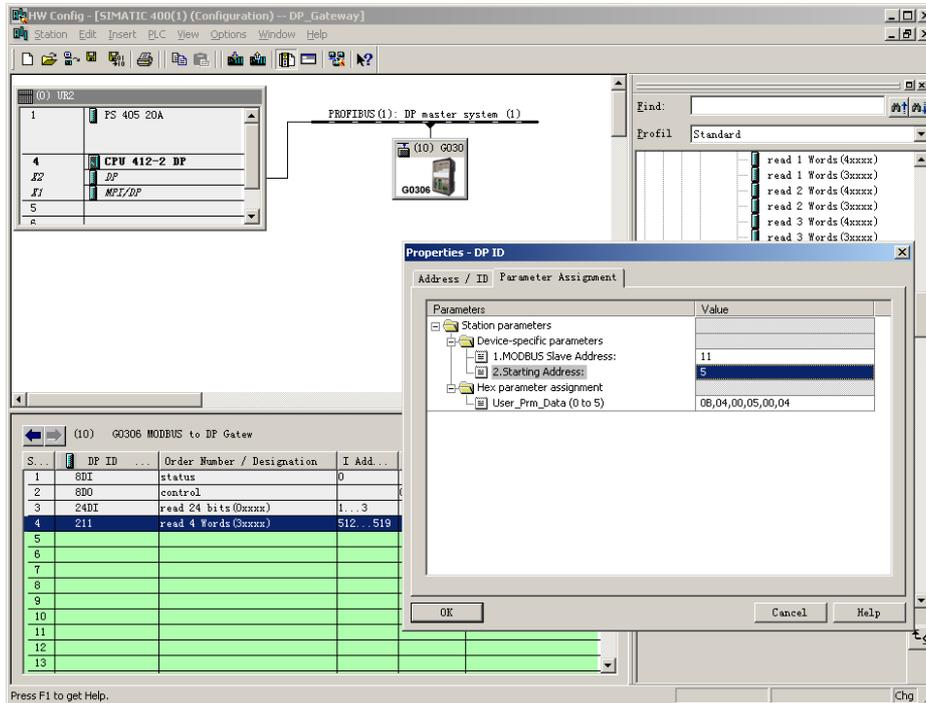

Figure 20 Configuration of “read 4 Words(3xxxx)”Module User Parameter
**b) Configuration of “read 4 Words(3xxxx)” module user parameter, as shown in Figure 20**
“1.MODBUS Slave Address:” ⇒ type MODBUS slave address 11, as shown in Figure 20
“2.Starting Address:” ⇒ type will-read register 3xxxx’s starting address 30006 and set address as 5 ⇒ “OK”, shown in Figure 20.